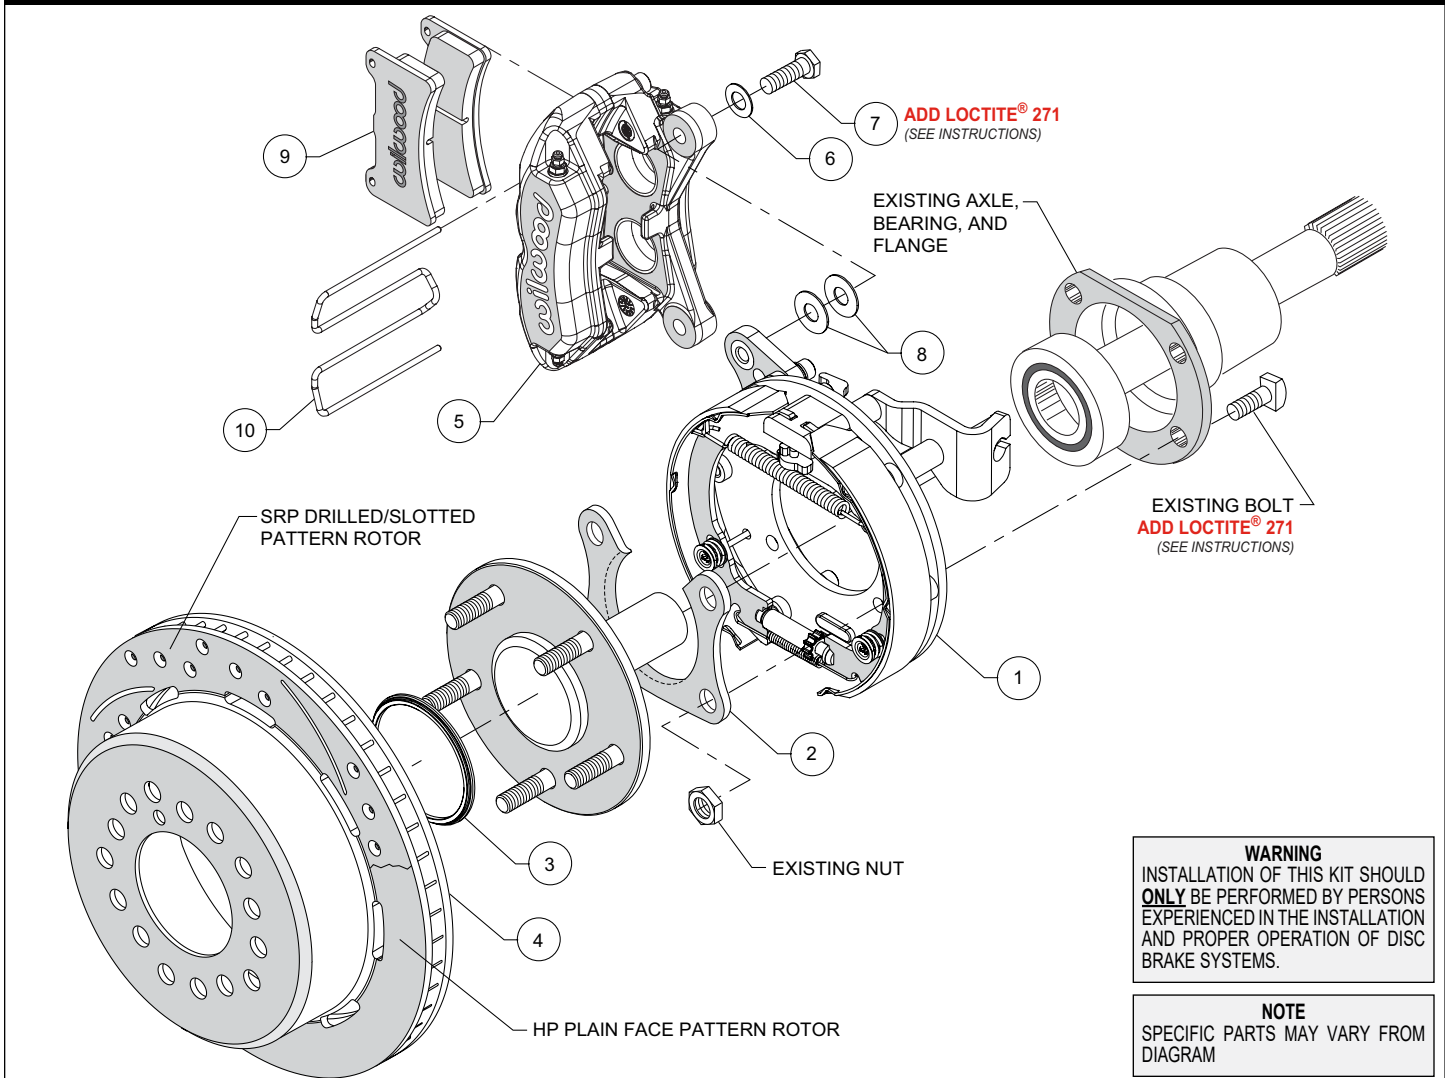
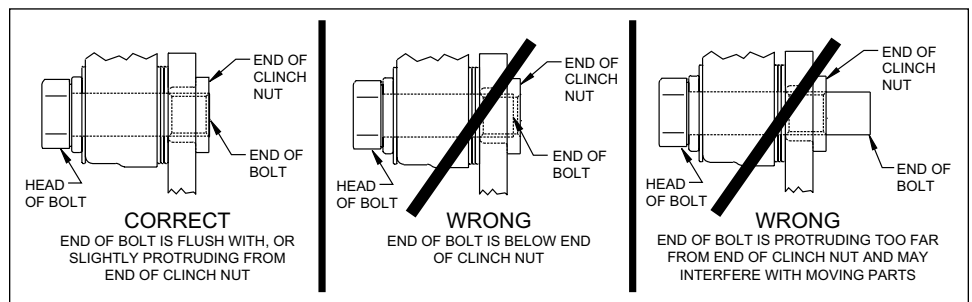

Figure 1. Typical Installation Configuration
Figure 5. Clinch Nut Engagement Diagram
NOTE: Numbers in parenthesis refer to the parts list and Figure 1 on the preceding pages.
CAUTION: All mounting bolts must fully engage clinch nuts. Be sure to check that all bolts are either flush or protruding through flanged side of clinch nut after shimming, Figure 5.
- Orient the bracket assembly (1) as shown in Figure 1 and Photo 1 and slide it onto the axle. Insert the axle and bracket into the axle housing. Ensure that the bracket assembly backing plate fits flush against the axle housing flange.
- Install the bearing retainer (2) with the opening pointing upward and the lip facing inward (toward the bearing), as shown in Figures
1 and 4, and Photo 2. Secure retainer and bracket assembly to the axle housing flange using the Original Equipment Manufacturer (OEM) bolts and nuts, Figure 1. Apply red *Loctite*® 271 to the OEM bolt threads and torque to OEM specifications.
rotor/hat (4), Photo 3. Align the correct hole pattern in the rotor/hat with the stud pattern on the axle flange and slide into place, Figure 1 and Photo 4. **NOTE:** The rotor/hat must fit flush against the axle flange or excessive rotor run out may result. Install three lug nuts (finger tight) to keep the rotor/hat assembly in place while continuing with the installation. **NOTE:** Some OEM and after market axles come with stud sizes larger than 0.50" diameter. Verify stud size and have a qualified machine shop drill the bolt circle of the hat/rotor to the correct stud size, if necessary.
•**NOTE:** Please reference the caution statement at the beginning of the assembly instructions. Mount the caliper (5) onto the caliper mounting bracket (1) using bolts (7) and washers (6), as shown in Figure 1. Initially place two .035" thick shims (8) on each bolt between the caliper and the bracket, Photo 5. Temporarily tighten the mounting bolts and view the rotor (4) through the top opening of the caliper. The rotor should be centered in the caliper, Photo 6. If not, adjust by adding or subtracting shims between the bracket and the caliper. Always use the same amount of shims on each of the two mounting bolts. **NOTE:** The end of each bolt must be flush with or slightly protruding from the head of the clinch nut, as shown in Figure 5. If necessary place spare shims between washer (6) and caliper mounting ear to achieve the proper clinch nut engagement. Once the caliper alignment and clinch nut engagement are correct, remove the bolts one at a time, apply red Loctite® 271 to bolt threads, and torque to 40 ft-lb.